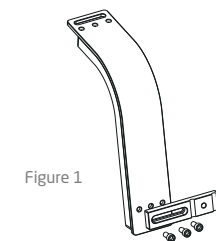

Figure 1
1. Install the shoulder pad connector on to the shoulder pad using the two Allen screws and the included Allen wrench. If the SK-R6 will be used on the right shoulder, lock the connector to the shoulder pad as shown in below figure 1 with 1/4" screw hole part towards left. If the left shoulder will be holding the support, lock the connector to the shoulder pad as shown in the below figure 2 with 1/4" screw hole part towards right.